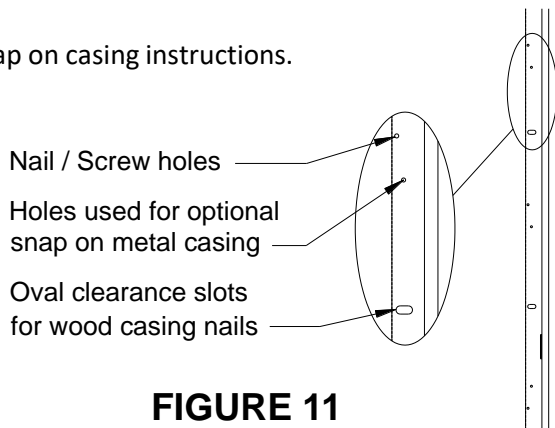

FIGURE 11
(Figure 11):
To secure horizontal sections, apply one (1) fastener per nail / screw hole. (Figure 11)
To secure vertical sections, apply one (1) fastener per nail / screw hole (Figure 11)